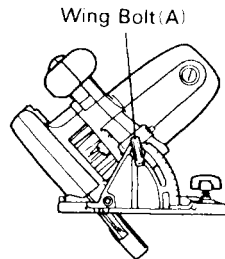
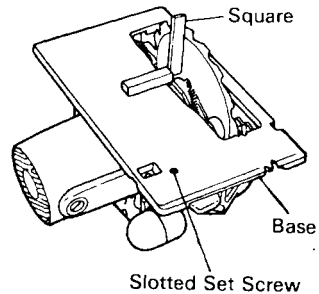

Fig. 8
Fig. 15
As shown in **Fig.8** by loosening the wing-bolt on the inclined gauge, the saw blade may be inclined to a maximum angle of 45 in relation to the base. Always insure that the wing-bolt is thoroughly tightened after making the desired adjustment.
- (1) Turn the base face up (Fig. 15) and loosen the wing bolt (A) (Fig. 8).
- (2) Apply a square to the base and the saw blade and, turning the slotted set screw with a minus screwdriver, shift the position of the base to produce the desired right angle.